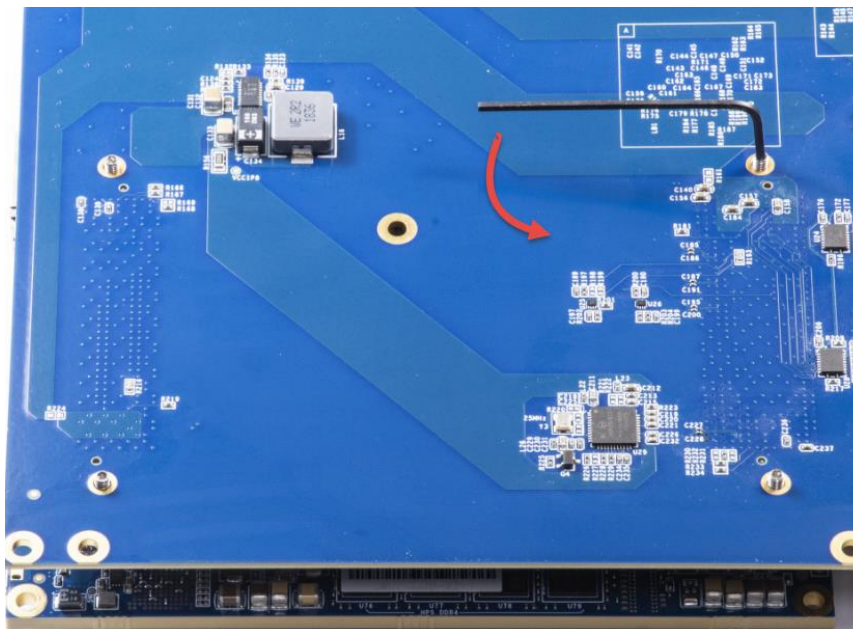

Figure 3-8 Disassemble JSOM-T to JSOM-B
2. Unscrew four JSOM-T. Note, as shown in **Figure 3-8**. Take turns to rotate the four JSOM-T one turn at a time until you hear the FMC connector separating sound.